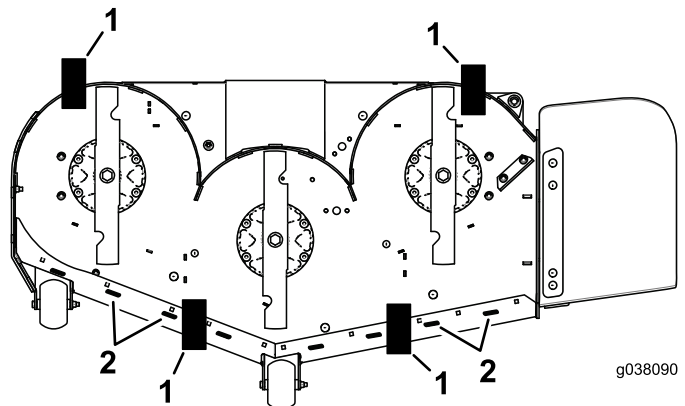

Figure 107
11. Place 2 blocks (see Block Height and Rake Table) under the rear edge of the cutting deck skirt; 1 on each side of the cutting deck (Figure 107).